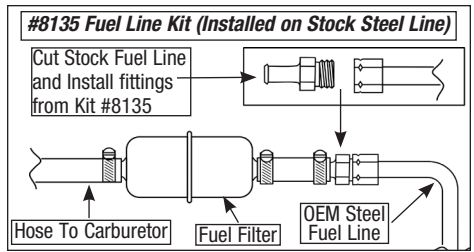

Fig. 3
2. The stock steel fuel line must be modified to accommodate a rubber fuel hose as the stock steel line will not connect directly to the Performer or AVS/ AVS2 Carburetor. The use of the Edelbrock Universal Fuel Line Kit #8135 is highly recommended. #8135 contains a fuel filter, rubber fuel hose, and fittings to adapt to 5/16” or 3/8” stock steel fuel lines. Edelbrock Dual and Single Feed Line Kits w/ Filter #8133 and #8134 are also available (See Fig. 3). **NOTE:** #1405 and #1406 carburetors are supplied with a fuel filter. If using #8135 on these carburetors, the filter included in #8135 can be saved for later use.